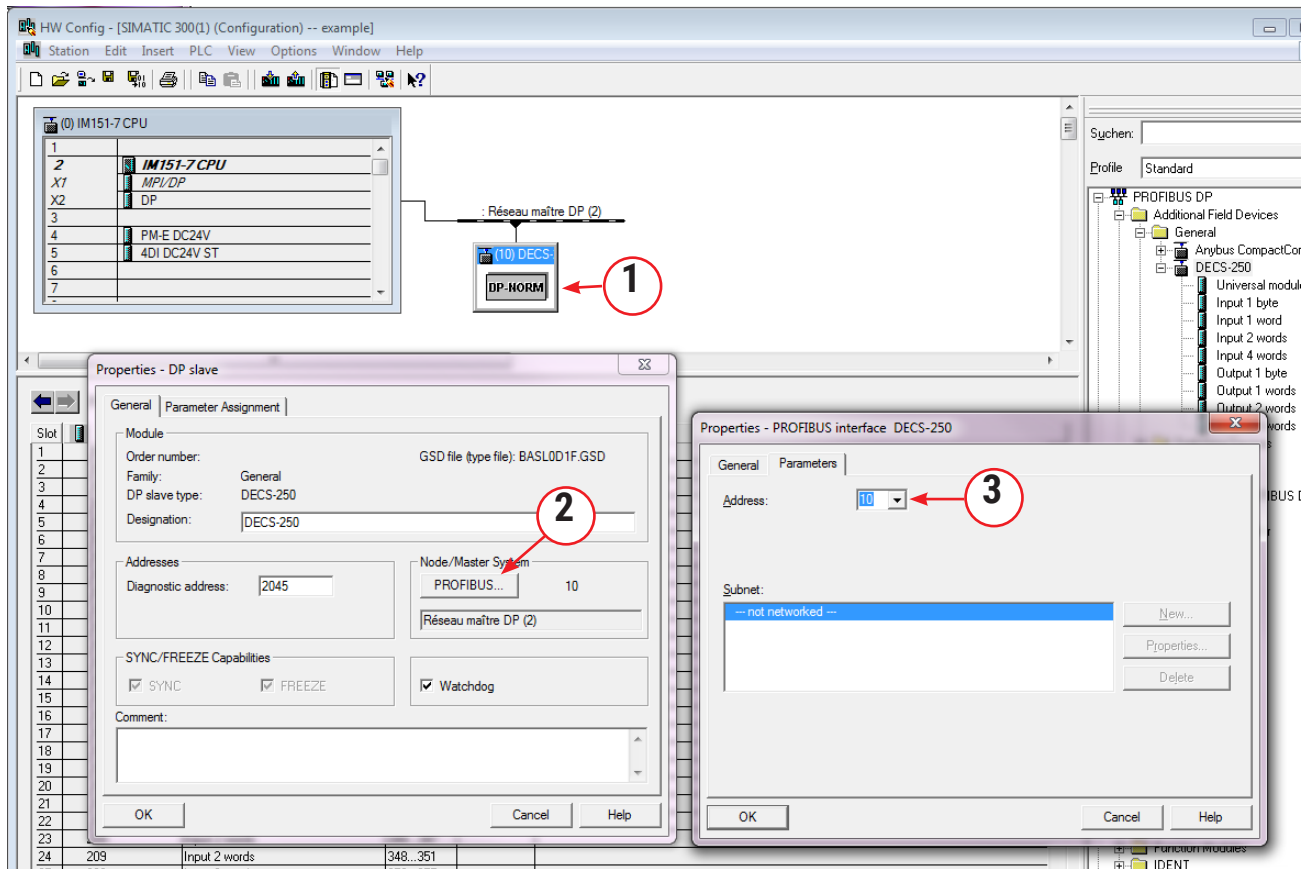

Figure 11. Adjusting the Node Address in “HW Config”
Figure 11 shows the mouse-click sequence used to open the node address edit window and set the desired node address. Mouse-click sequence ① and ② opened the edit window and sequence ③ accessed the address setting. The address was set to equal the address of the DECS-250 module.